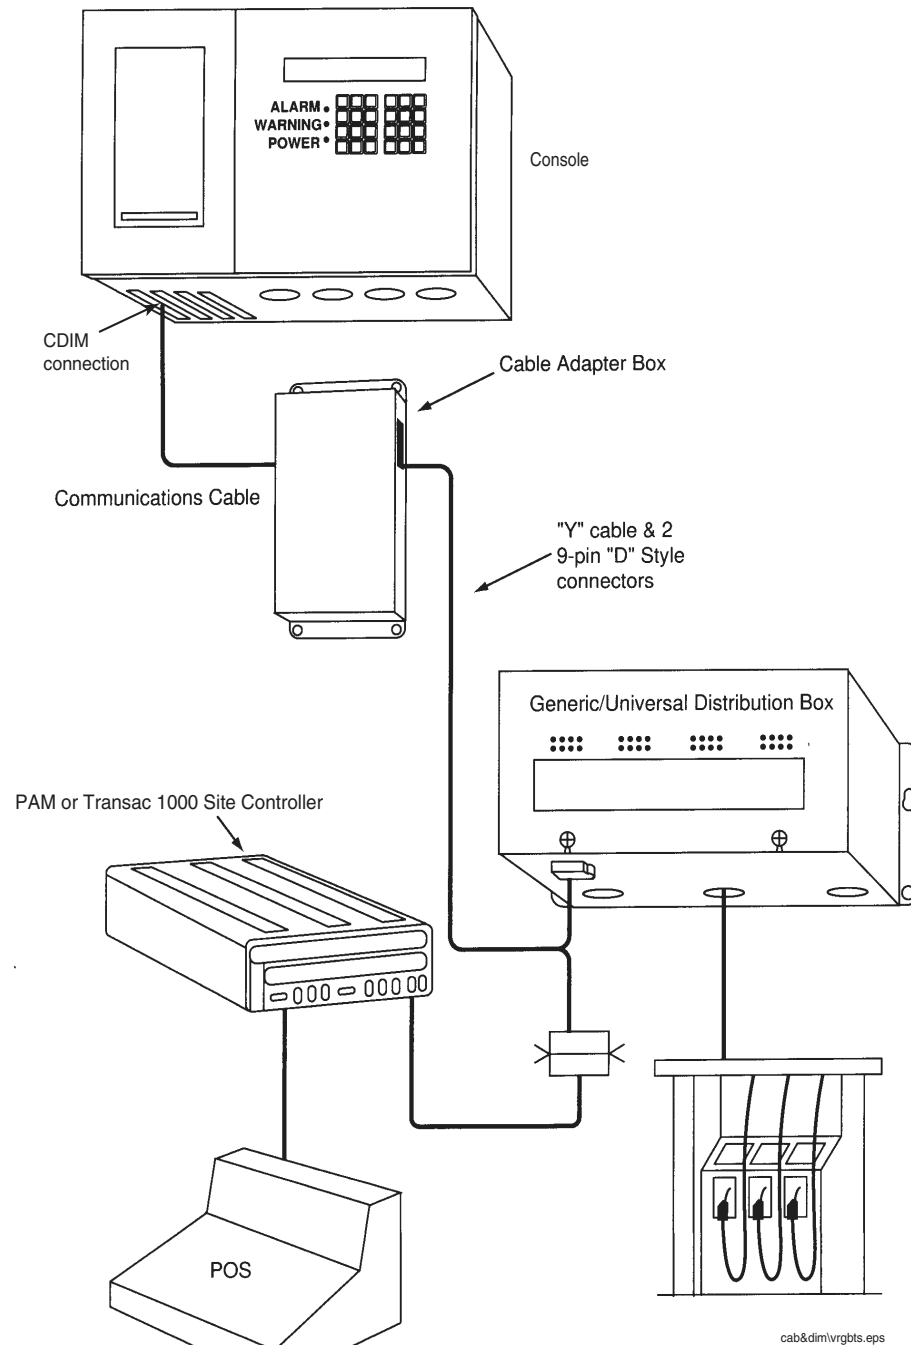

Figure 6. Universal Distribution Box Interface
Important  The below application can also be effected using a Generic Universal Distribution Box (see Figure 6). You must, however, use a “Y” cable to plug into the generic box.
1. Locate Distribution Box as seen in Figure 6 on page 15.